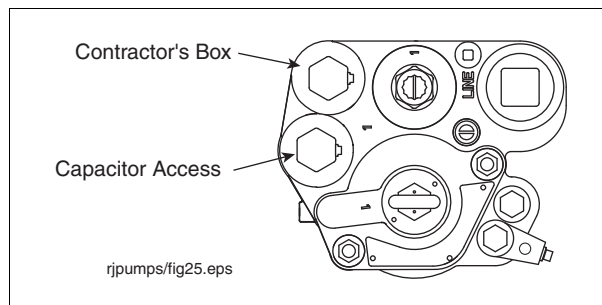

Figure 33. Locating Contractor's Box And Capacitor Compartment
1. Remove capacitor access cover (see Figure 33).
1. Remove the contractor's box cover (Figure 33 on page 44). Remove and discard the o-ring from the cover. Set aside the cover.